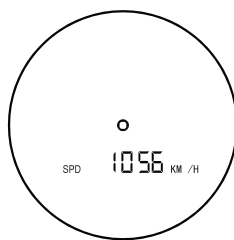

Figure 7
In this mode, you can measure the speed of moving objects. Point the reticle at a moving target, and then press the Power/measure button (1). Do not let the moving object out of your field of view in order to display the indication (Fig. 7).